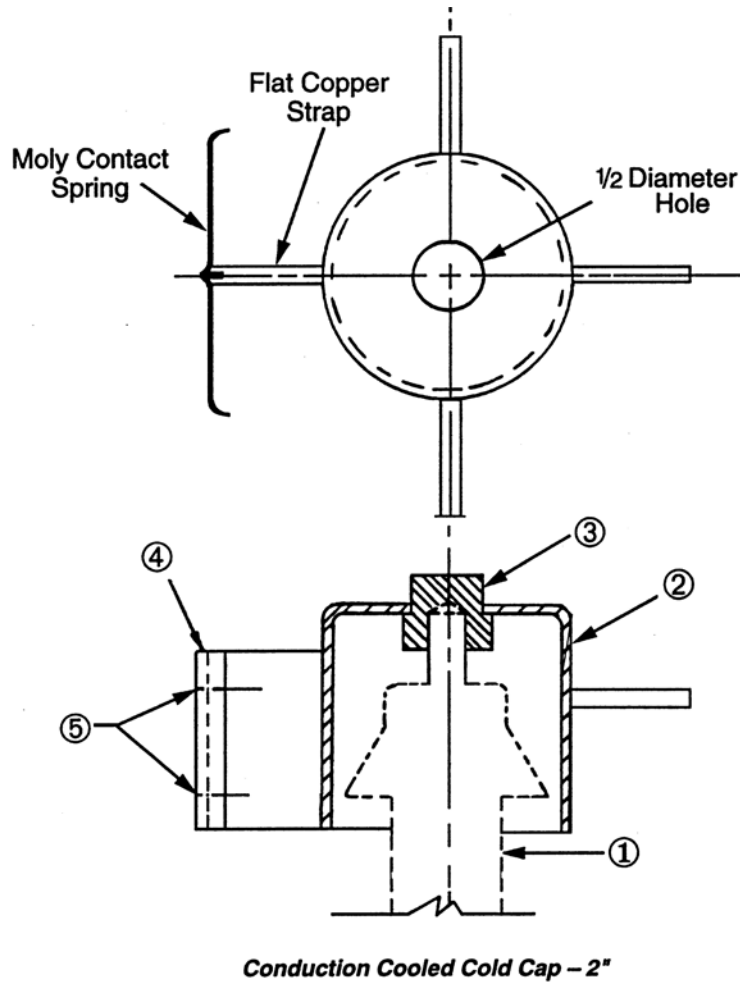

Figure 1-1 Cold Cap Installation
Figure 1-1 shows the cold cap correctly mounted on the top jet. Refer to Figure 1-3 on page 1-4 and Figure 1-4 on page 1-5 during installation.
3. Install the cold cap (Item 2) as shown in Figure 1-1, ensuring that it is resting firmly on the shoulder of the teflon button: